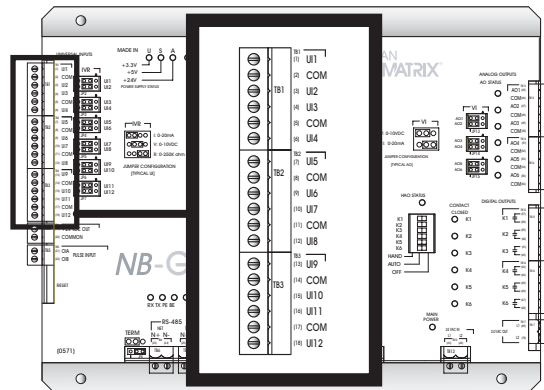

Figure 2-9: Location of the Universal Inputs on the NB-GPC1
The NB-GPC1 provides a total of twenty four universal inputs (UIs). It has twelve (12) on-board universal input points shown in Figure 2-9. These correspond to the Universal Input 1 through Universal Input 12 objects. Universal Input 13 through Universal Input 24 are exclusively for use with STATbus devices and can be configured to make use of remote inputs on SSB-F11, SSB-UI1, and SSB-IOX1 modules as well as the dry contact inputs on SSB-DO1-I and SSB-DO2-I modules.